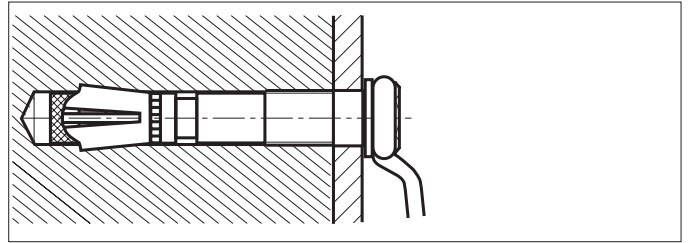

Fig. 3
- The anchor is now tightened with the required amount of torque (Fig. 3).